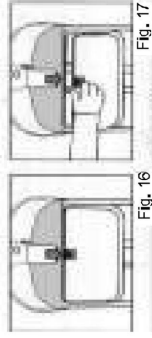

Fig. 16
1.2 Glove compartment lock: To open the lock, insert the key into the lock and rotate anti-clockwise till the end and then press the lock downwards. For closing, press the lid, turn the key clockwise and then take out the key (Fig. 16 & 17).